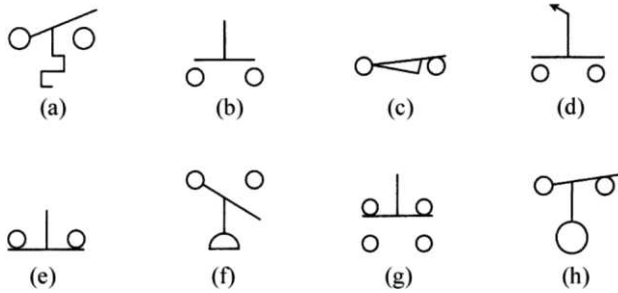

Figure 6-23 Program for question 13.
13. Identify the symbols for the input devices shown in Figure 6-23 from the following list: NO pushbutton, NC pushbutton, break-make pushbutton, selector switch, NC limit switch, NO temperature switch, NO pressure switch, and NC level switch.